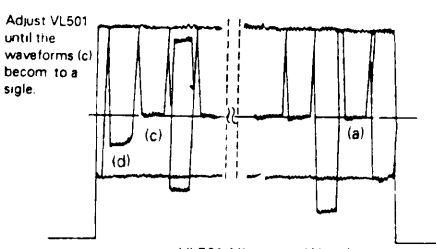

Fig 10.
- 5: Adjust the VR501 until it becomes to the waveform Fig 10.